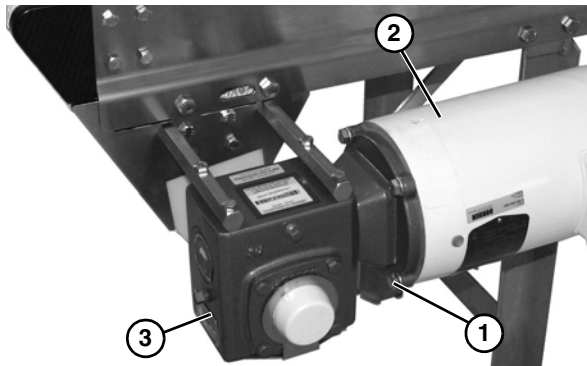

Figure 22
1. Remove the bolts (**Figure 22, item 1**) that connect the motor (**Figure 22, item 2**) to the gear reducer (**Figure 22, item 3**).